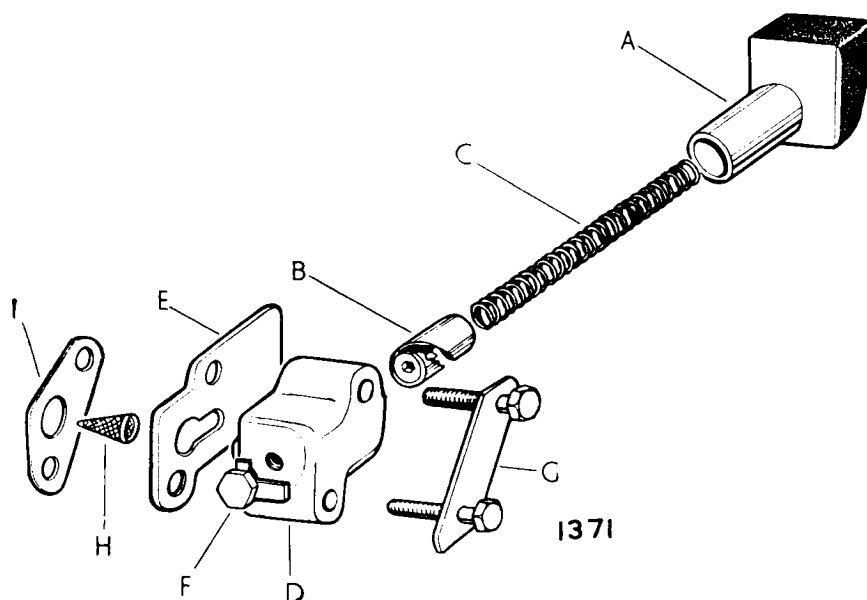

Fig. 54. Exploded view of the bottom timing chain tensioner.
The bottom timing chain tensioner is of hydraulic type and consists of an oil resistant rubber slipper mounted on a plunger (A, Fig. 54) which bears on the outside of the chain. The light spring (C) cased by the restraint cylinder (B) and the plunger, in combination with oil pressure holds the slipper head against the chain keeping it in correct tension.